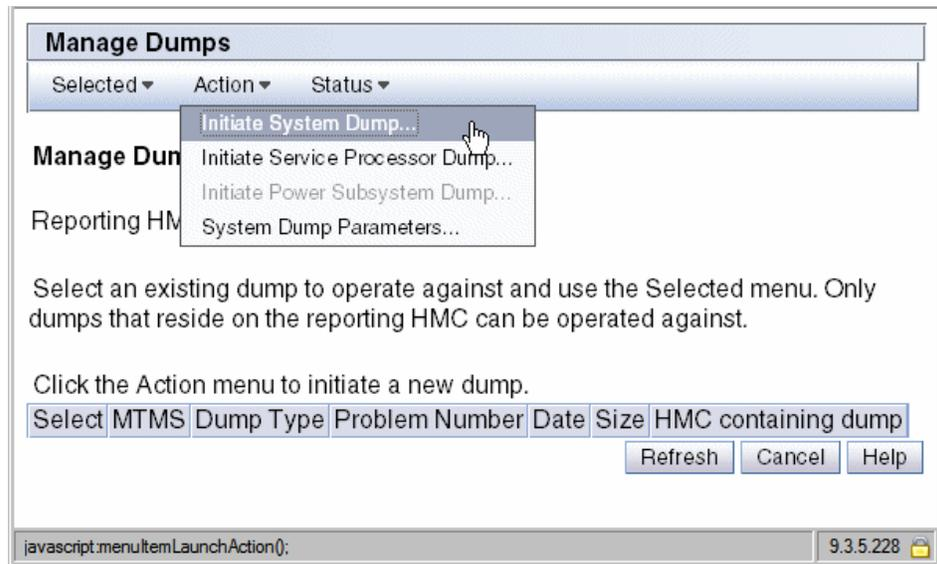

Figure 12-17 Service Management, initiate system dump
- In the Manage Dumps window, select **Action** → **Initiate System Dump**, as shown in Figure 12-17.